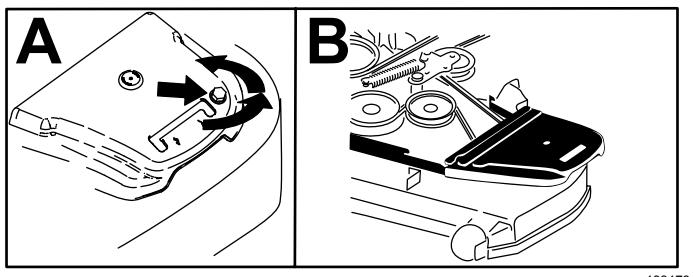

Figure 62
7. Remove the belt covers and the bolts attached to them (Figure 62).